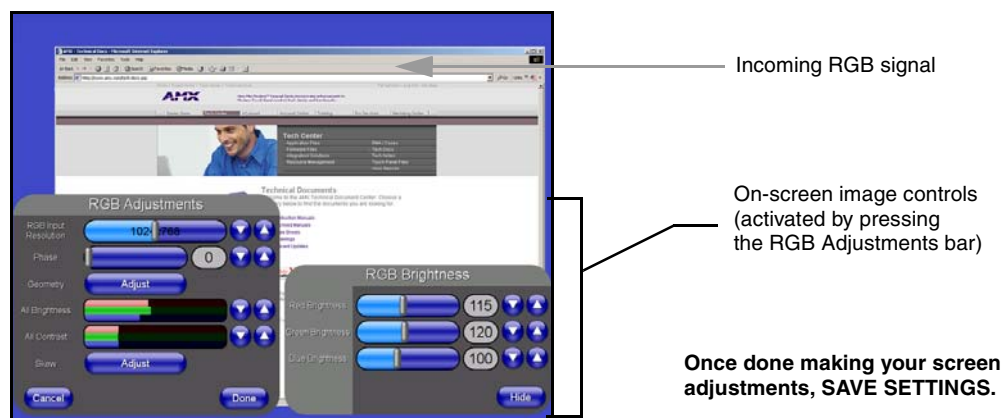

FIG. 112 Full Screen Edit Mode - showing controls
2. Press this grey bar to maximize the RGB Adjustments popup menu (FIG. 112) which provides you with much more accurate adjustments of the incoming signal properties. This menu can be dragged across the screen for a better view of the underlying image. Once you exit this menu, the grey bar is positioned back onto its original location.